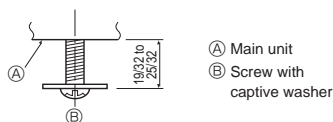

Fig. 5-5
5.4.1. Preparations (Fig. 5-5)
- Install the two enclosed screws with washer ② in the main unit (at the corner drain pipe area and at the opposite corner) as shown in the diagram.